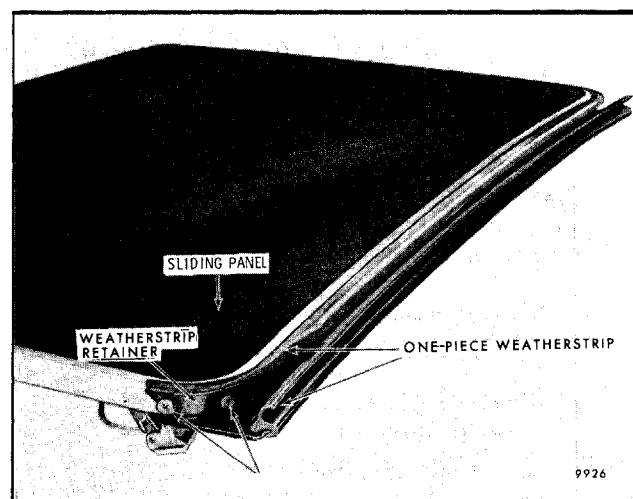

Fig. 8-87-Weatherstrip Location at Rear of Sliding Panel - C Styles
6. The sun roof panel has a weatherstrip located at the rear of the panel to channel water seepage to the two rear drain hoses (Figs. 8-87 and 8-88). If water is allowed to bypass this weatherstrip, it will collect in the sun roof panel storage area or leak into the passenger compartment.